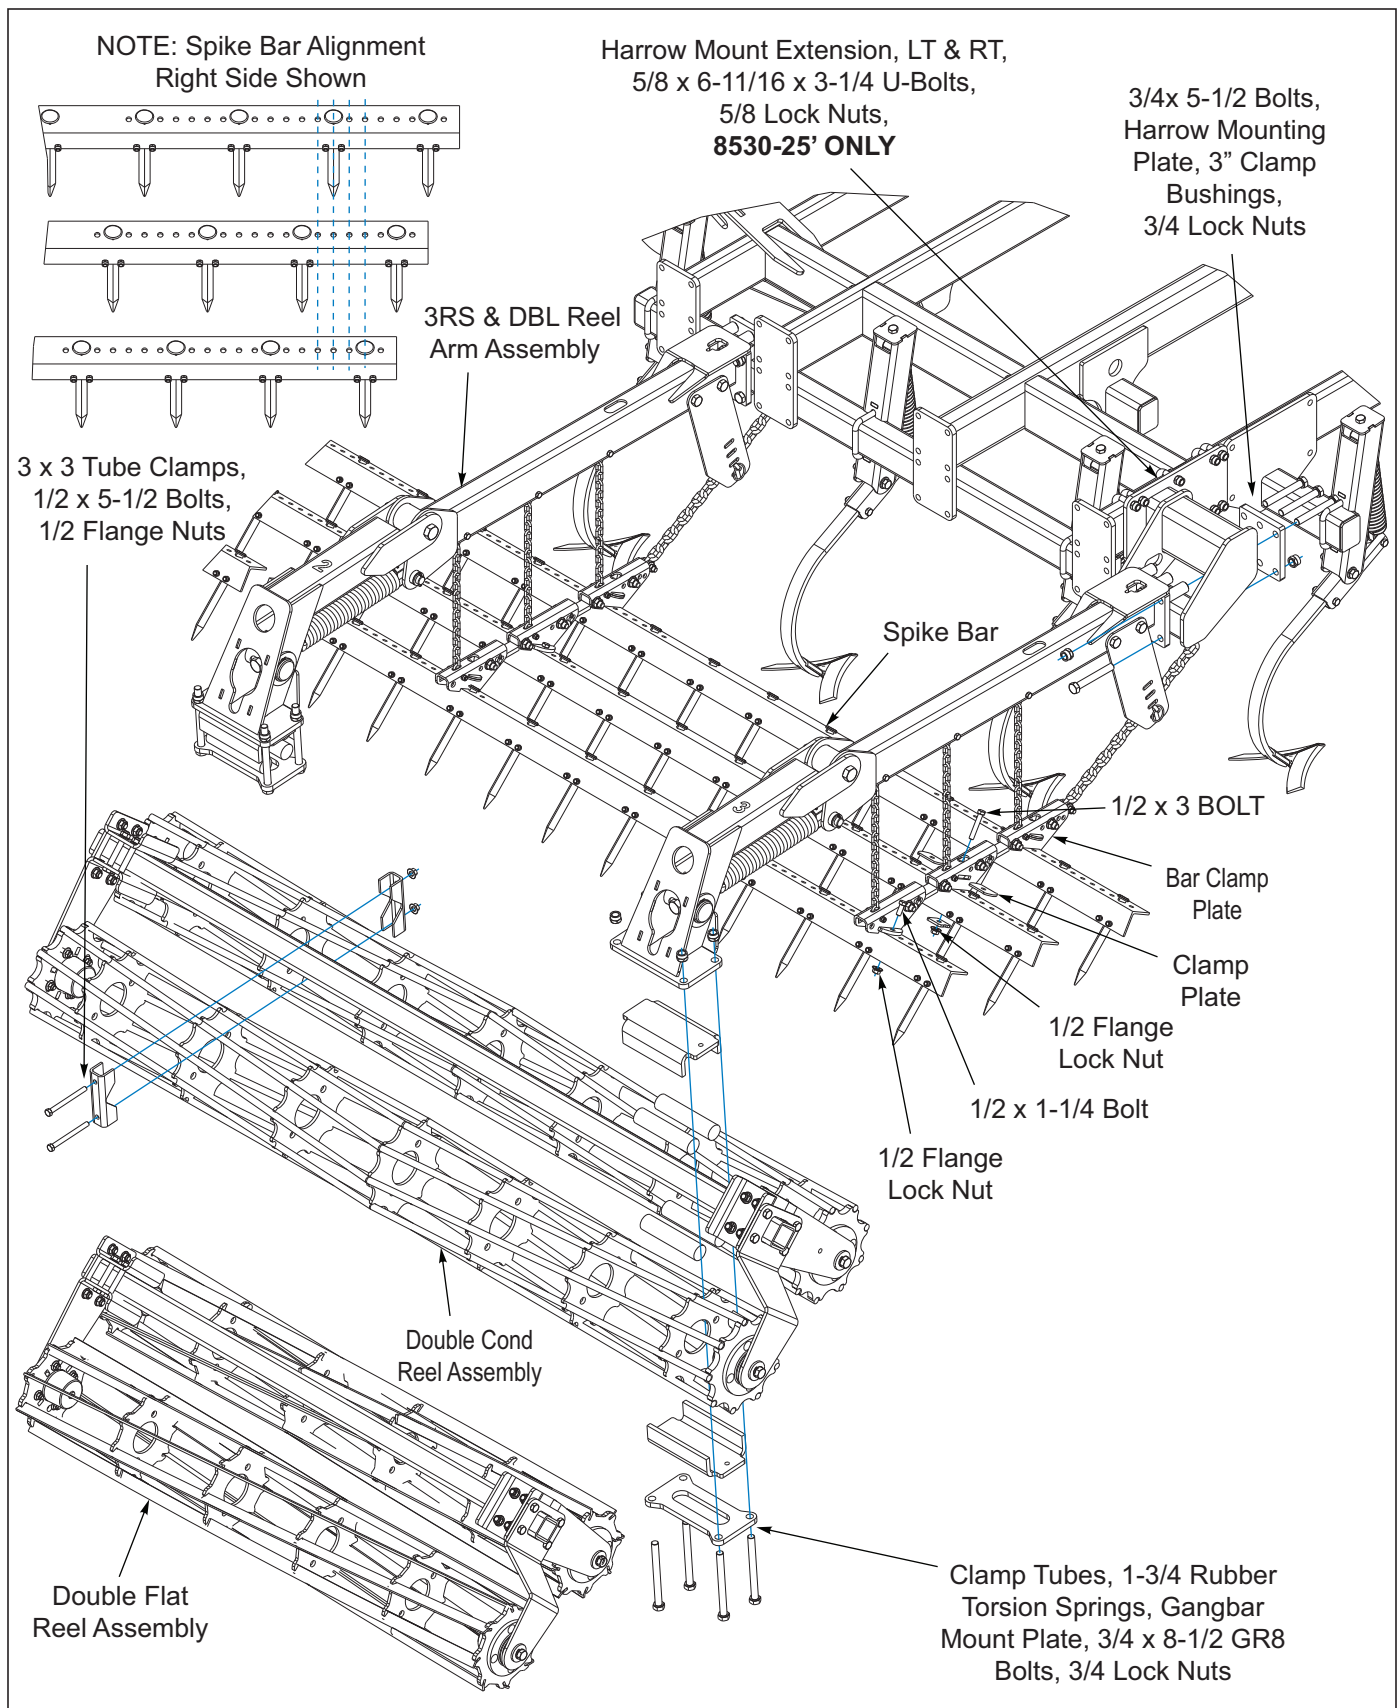

Figure 3-68: 3RS DBL Reel Installation
*Model 8530-25' the LT & RT harrow mount extensions will need installed on the outside of the outer wings, using 5/8 x 6-11/16 u-bolts and 5/8 lock nuts **See Figure 3-68** and **See Figure 2-83 - 2-84**.*
1. Attach the 3 RS arm assemblies to the rear tube of the center and wing frames using harrow mounting plates, 3/4 x 5-1/2 bolts, clamp bushings and 3/4 locknuts **See Figure 3-68**.
2. Refer to spike bar alignment **See Figure 3-68** for proper alignment of spike bar assemblies. Be sure they are aligned properly on both right and left side of each section.